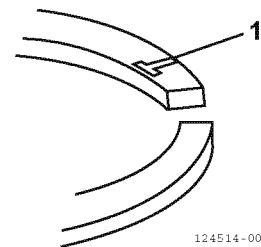

Figure 6-97
- Reinstall the top and second piston rings with the stamped “makers mark” (1, **Figure 6-97**) facing the top of the piston. The “makers mark” may vary in appearance but will always be located on the top surface of the piston ring adjacent to the piston ring gap. The oil ring and oil ring expander can be installed either side up.